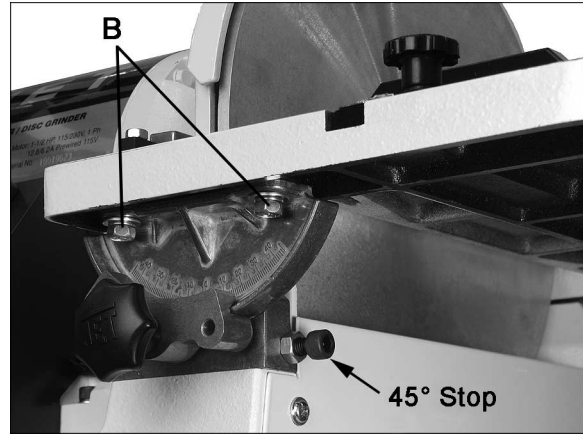

Figure 25
- If table is not parallel, loosen the four screws holding the table to the trunnions (B, Figure 25) with a 12mm wrench, and nudge the table until parallel. Re-tighten screws.
- To adjust the 45° stop, pivot the 90° stop block out of the way, and tilt the table down against the 45° stop screw (Figure 25). Check the angle with a 45° measuring device on the table and against the disc.